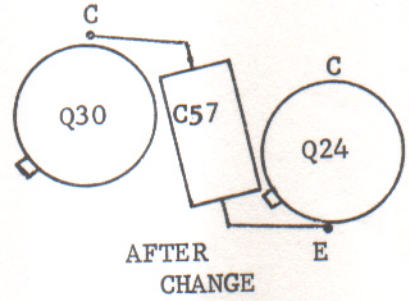

FIGURE 2
2. Drill one hole using a .030/.035 inches, drill adjacent to the emitter connection of Q-24 (see figure 2).
3. Install the new 560pf capacitor, designated C-57, between the collector of Q-30 and the emitter of Q-24 (see figure 2). Insert capacitor lead through new hole, then bend the lead to the emitter trace of Q-24, then solder.